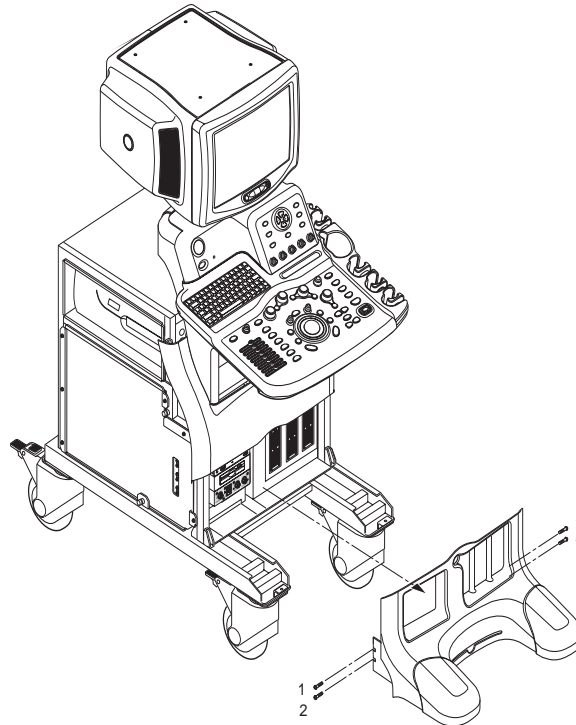

Figure 8-50 Removing the Front Base Cover
4.) Remove the Front Base Cover. Refer to Figure 8-50.